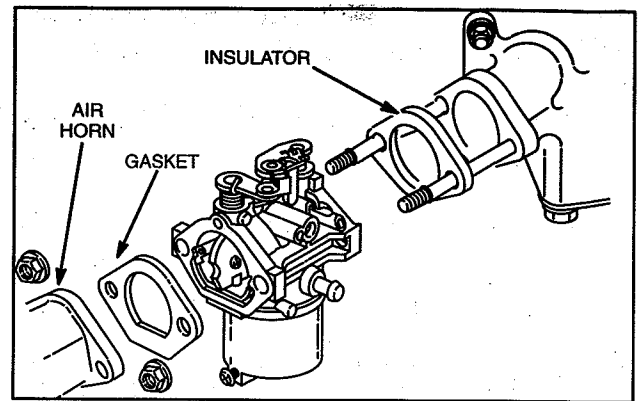

Fig. 4 – Removing Carburetor
4. Remove nuts, air horn, carburetor and insulator, Fig. 4. Discard gaskets.